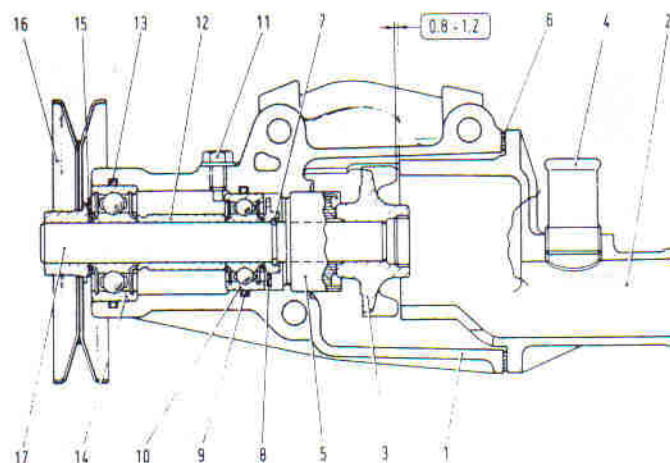

Fig. 2.2 Sectional view of coolant pump on OHV engines (Sec 10)
- 7 If the clearance between the impeller and the rear cover is not as specified (see Fig. 2.2), the bearings are probably worn, and the pump must be renewed.